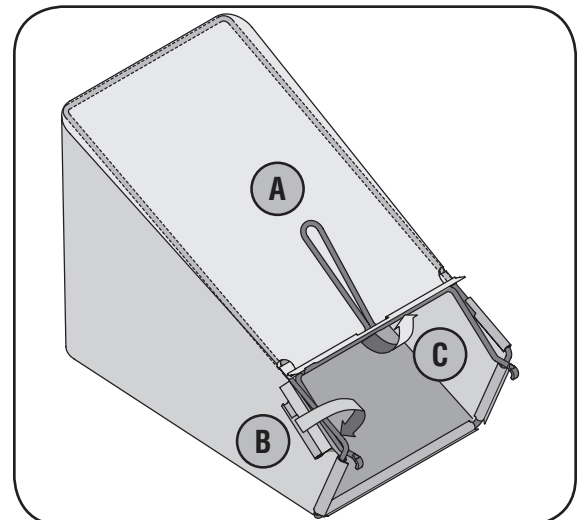

Figure 3-4: Assemble the grass catcher (if needed).
- b. Slip plastic channel of grass bag over hooks on the frame. See Figure 3-4. All plastic channels except center top of bag attach from outside of bag.